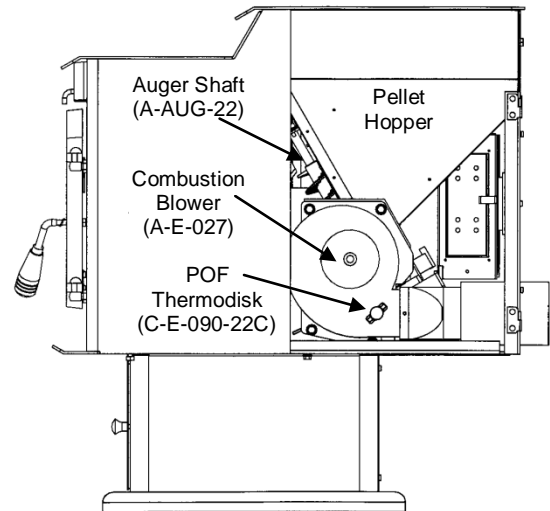

Figure 14
- B. **Interior Chambers** – The two ash doors in the firebox in The Jackson can be removed for periodic cleaning (refer to figure 14). These doors allow access to the chamber behind the firebox.